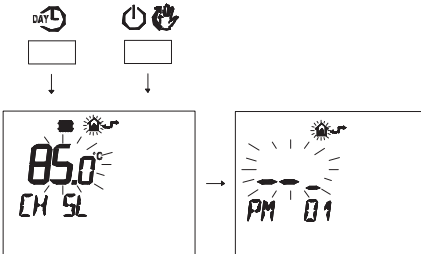

Fig. 7.37
- Press buttons **DAY** and **ON** at the same time to enter transparent programming (Fig. 7.37)